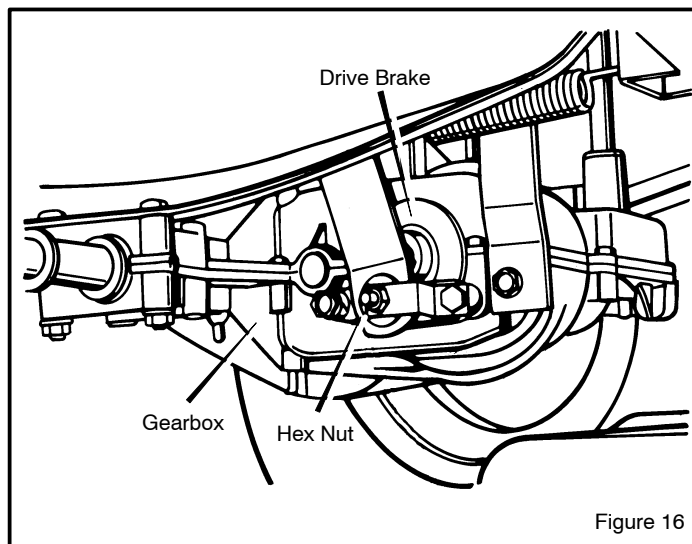

Figure 16
1. The location of the **drive brake** is on the right side of the **gearbox** (Figure 16).
2. Make sure the parking brake is set and the shift lever is in neutral (N). Turn the **hex nut** in a clockwise direction until the rear wheels do not turn when the unit is pushed forward.